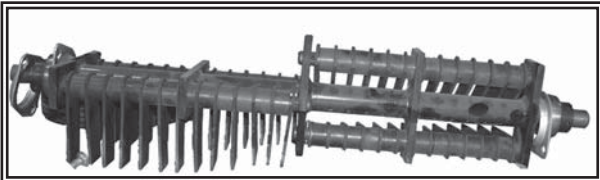

Fig.4: Flail and rotor assembly
7. Lift lawn comb away to reveal flail and rotor. (Fig.4)
2. Remove rotor from lawn comb. (Fig 4.)